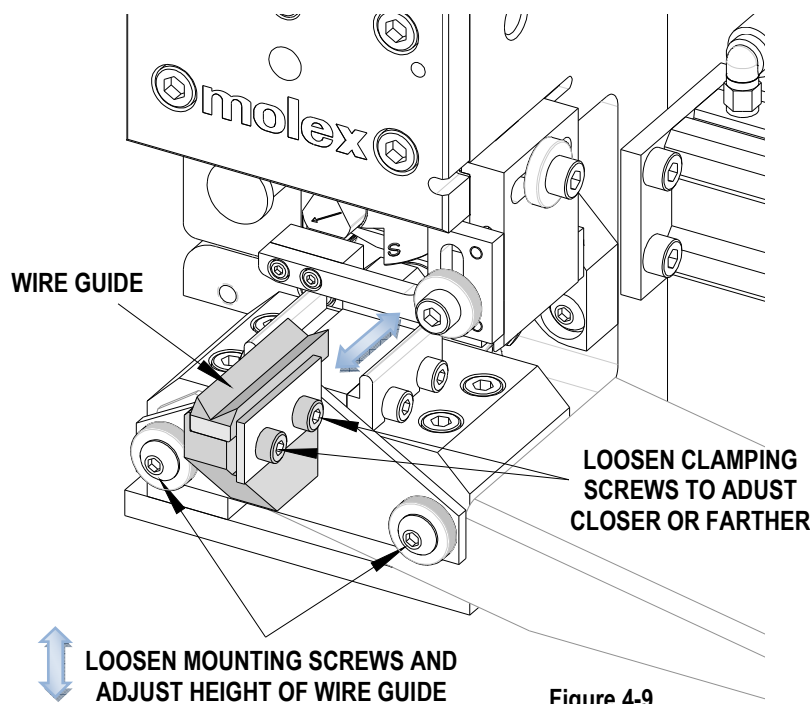

Figure 4-9
- Using the existing two screws and washers on the front of the tape module the wire guide assembly mounts as shown in Figure 4.9.
- Adjust the wire guide feature to best suited for the application being used. Loosen the clamping screws to adjust the wire guide closer to or farther away from the crimp tooling. See Figure 4-9.